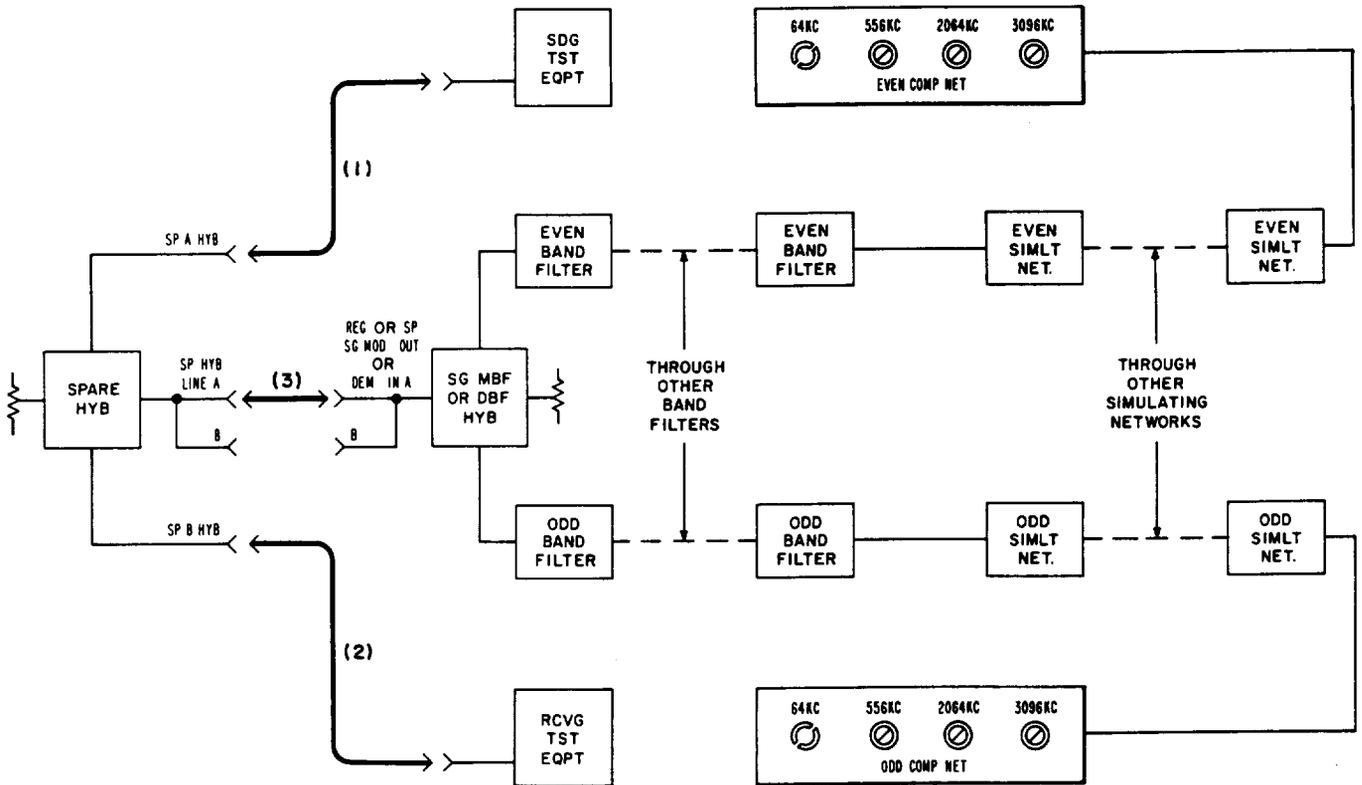

Fig. 1—Measurement and Adjustment of Terminal Compensating Networks—Test Setup
5	Connect the test equipment according to patches (1) and (2) in Fig. 1. Connect patch (3) from the SP HYB LINE jack to the REG SG MOD OUT jack.